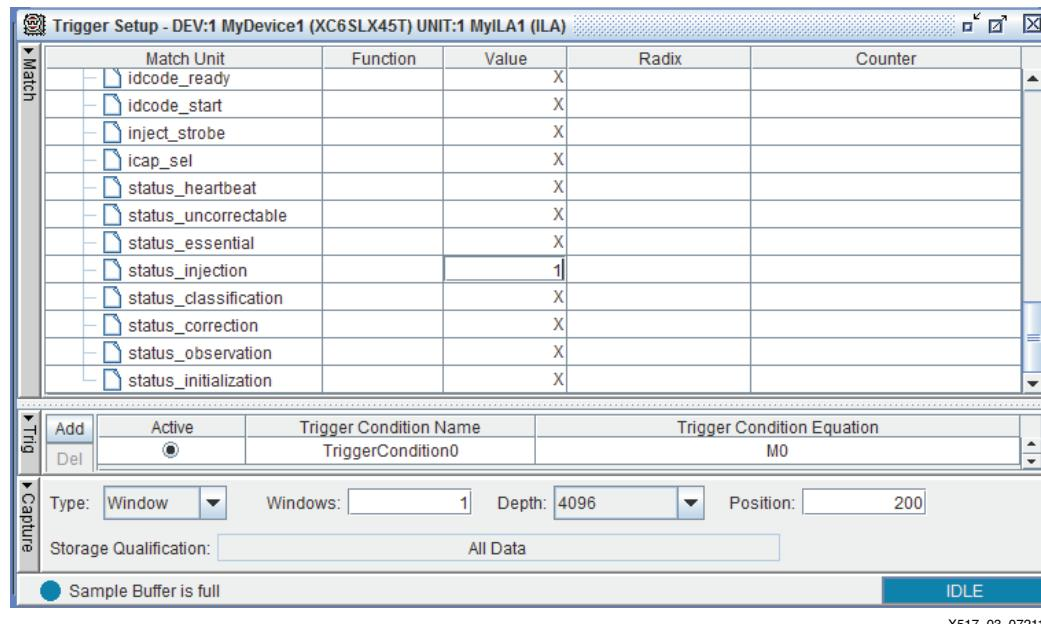

Figure 3: Setting Up Trigger to Capture Error Injection
3. Set up the ChipScope Pro analyzer to trigger on any of the status signals to observe changes in the SEM controller state. **Figure 3** shows triggering when the SEM controller indicates that an error is being injected.